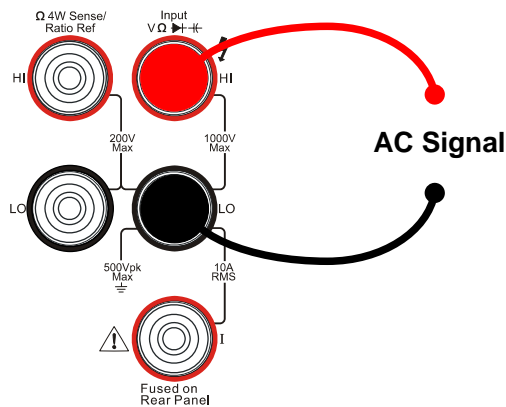

Figure 1-33
1. Connect test leads as Figure 1-33 shown. Red test lead connects the HI Terminal, Black test lead connects the LO Terminal.